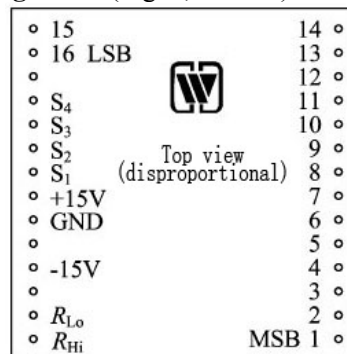

Fig.6 Schematic diagram of pins (top view)
7. Pin designation (Fig. 6, Table 4)